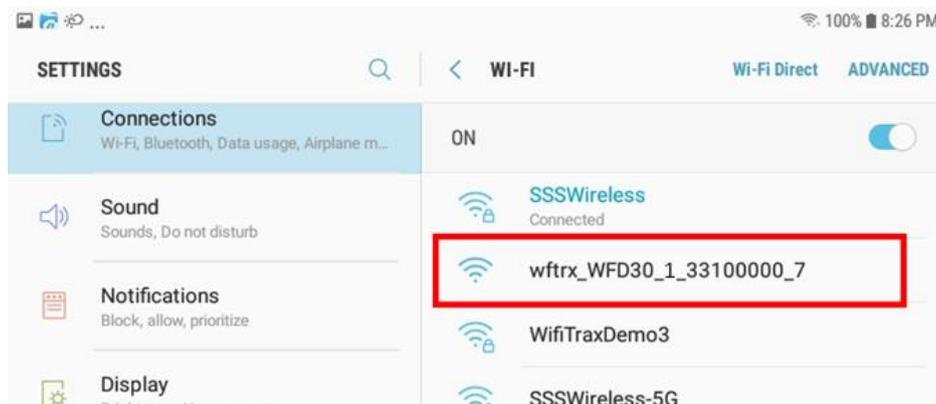
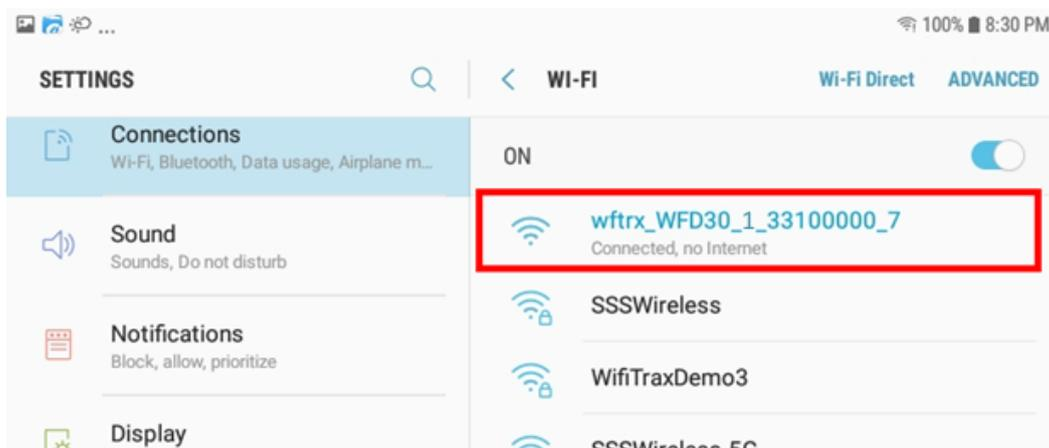

Figure 15 WFD-30 Wi-Fi Access Point is visible
Figure 16 Connected to the WFD-30 Wi-Fi Access Point
- (6) You now see a collection of available Wi-Fi Access Points. Look for one that is of the form `wfrx_WFD30_1_XXXXXXXX_7`, where `XXXXXXXX` is the serial number of your unit that appears on its bag and the unit itself, like Figure 15. Tap that Wi-Fi Access Point – no password is required – and wait for it to connect. You will not be able to access the internet while you are connected to the Wi-Fi access point of the WFD-30 but consult the manual later to see how you can put everything on your home network. After a few moments the Access point should show “Connected, no internet” as Figure 16